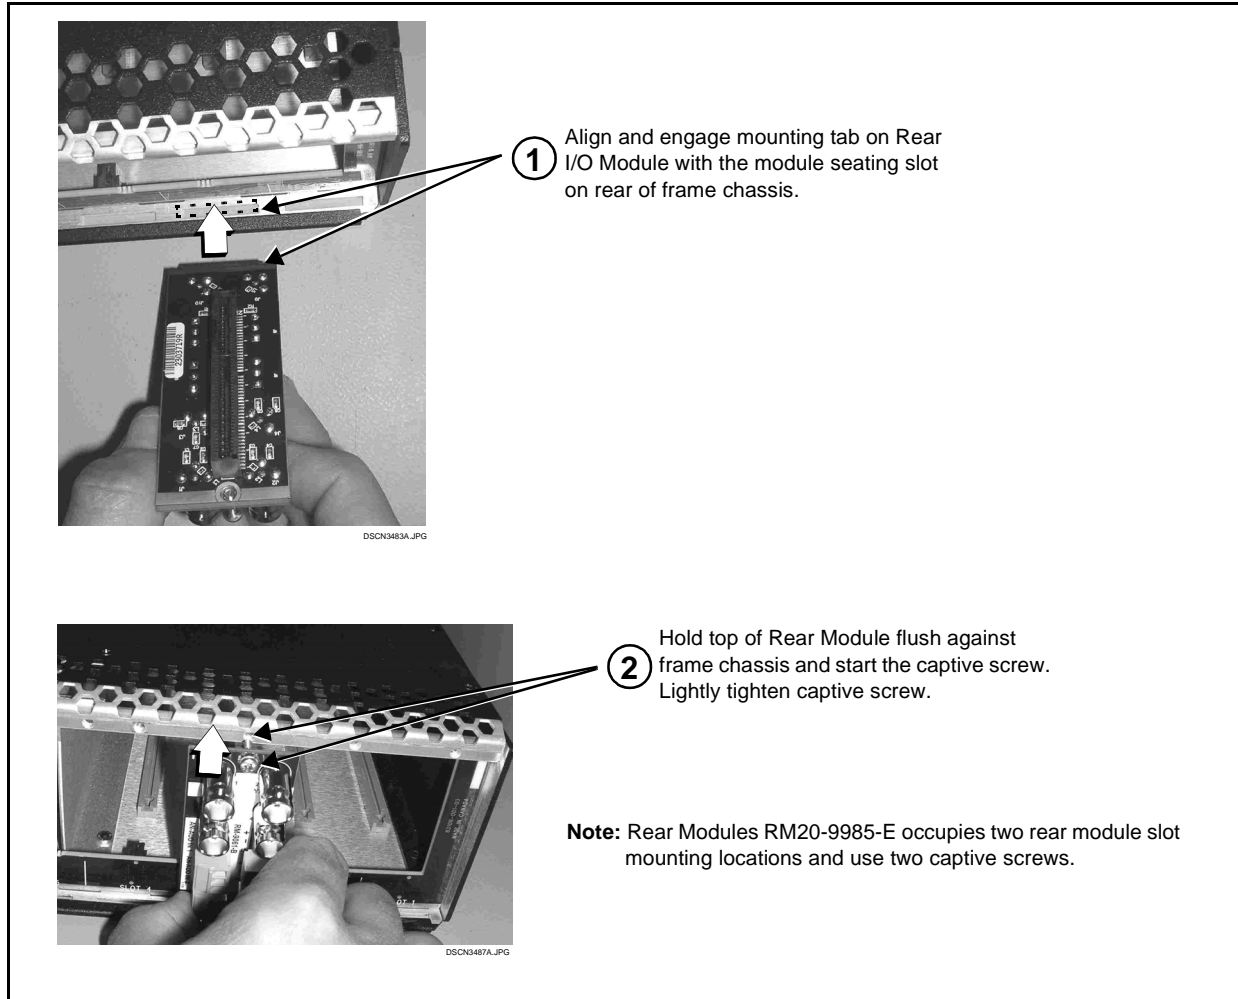

Figure 2-2 Rear Module Installation
2. In the mounting area corresponding to the slot location, install Rear Module as shown in Figure 2-2.